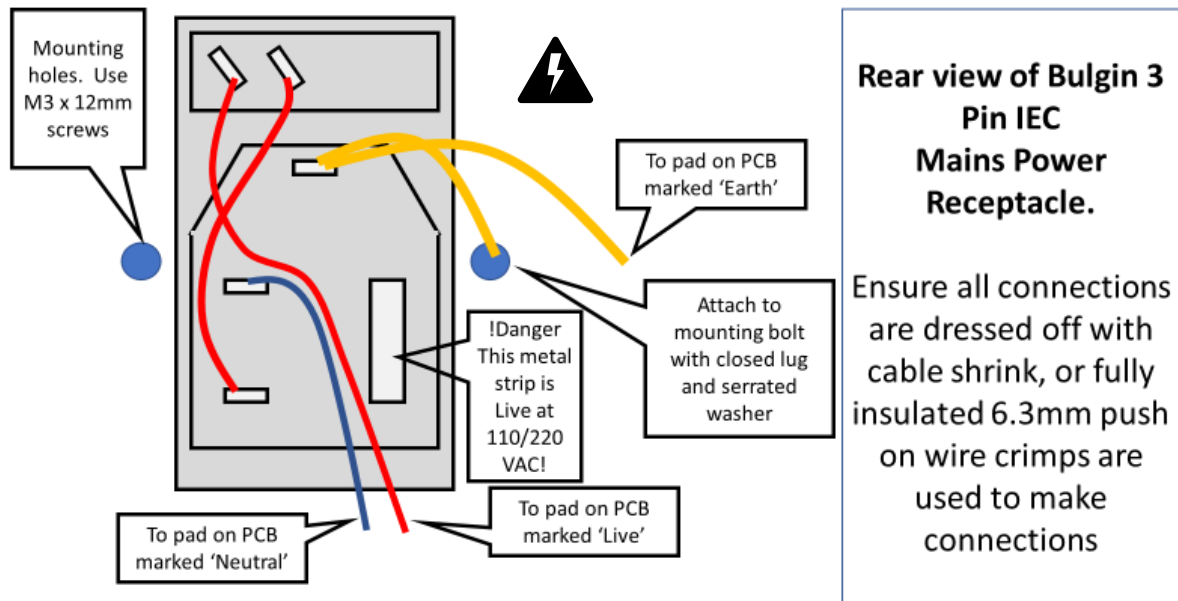

Figure 2 - How to Wire the Bulgin 3 Pin Mains Power Inlet Receptacle
9. Once completed, wire a mains cable and suitable plug for your country to the PCB – See Fig 2 of this document for details on how to wire the IEC receptacle.
1. Wire the live(hot) and neutral to the power inlet receptacle. Ensure each connection is made off with heat shrink so that no connections are exposed (See Fig. 2 of this document)